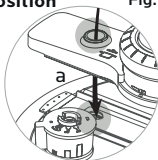
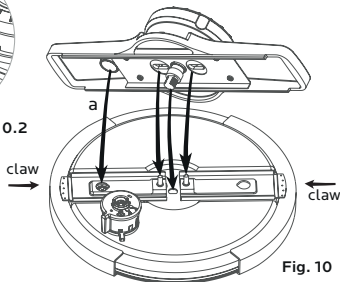

Fig. 10.2
Fig. 10
- 3 - Make sure that the claws are always firmly positioned against the lid (closed position) (fig10)
- 5 - Align the positions according to the arrows in Fig10, making sure that the hole in the control system matches the position of the safety valve (fig10.2) ⚠
- 6 - Keep the claws always firmly against the lid and fit the new control system into the lid hole, ensuring that it fits well (fig10).